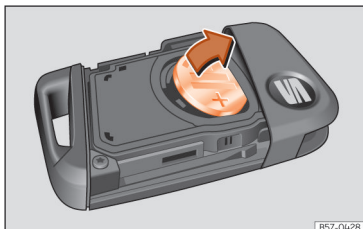

Fig. 47 Vehicle key: removing the battery.
- Lever the battery out of its compartment >>> Fig. 47.
- Fit a new button battery into the compartment >>> ①.